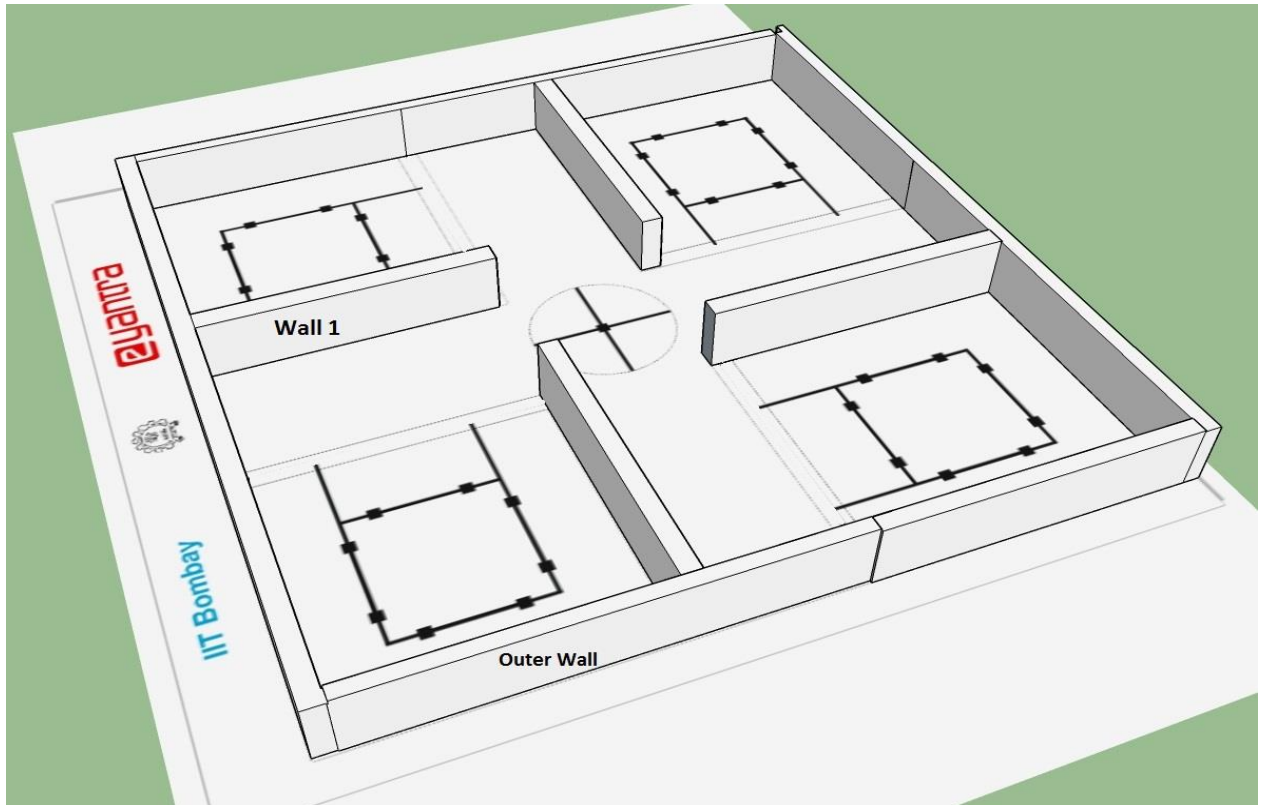

Figure 4: Arena with Outer Walls and Wall 1 Sections
- **Outer Wall:** Four Outer walls (212cm x 20cm x 4cm) are placed on the periphery of the apartment. These are fixed permanently to the flex (Refer to Figure 4).
- **Wall 1:** Wall 1 is the longer wall (84cm x 20cm x 4cm), used in the interior of the apartment. Every room is fitted with only **one** Wall 1 section. These are also permanently attached to the arena as shown in Figure 4.
- Stick the Outer Walls and all the Wall 1 sections permanently to the arena using double side tape or any other suitable adhesives. After this step the arena should look like Figure 4. (Note that on the flex design “Wall 1” is marked on the appropriate wall section for each room.)